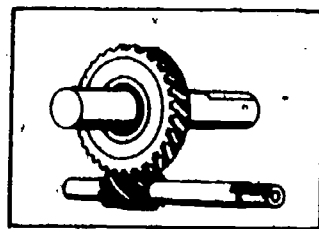

Fig 3-17. Worm gear.
- (c) **Worm gears** (fig 3-17). These also change the direction of power flow. They are generally used for slow speed applications and where their action is needed to resist reverse torque action. The power enters at the worm and drives the gear; should the power flow reverse, the gear would force the worm against the friction surface causing enough friction to reduce or stop the power flow. The most common use for worm gearing is automobile steering. The worm can be compared to the threaded part of a bolt, and the gear to a rounded nut with external teeth to match the bolt threads.